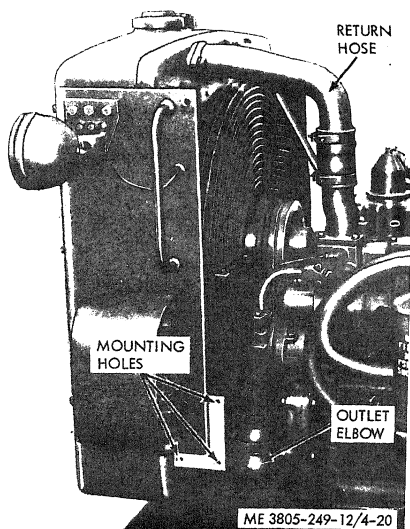

Figure 4-20. Radiator.
- a. *Removal.* Refer to figure 4-20.
- (1) Remove the hood (para 4-56) and exhaust pipe and muffler (para 4-23).
- (2) Disconnect wiring to the rear light and remove the light assemblies (para 4-36).